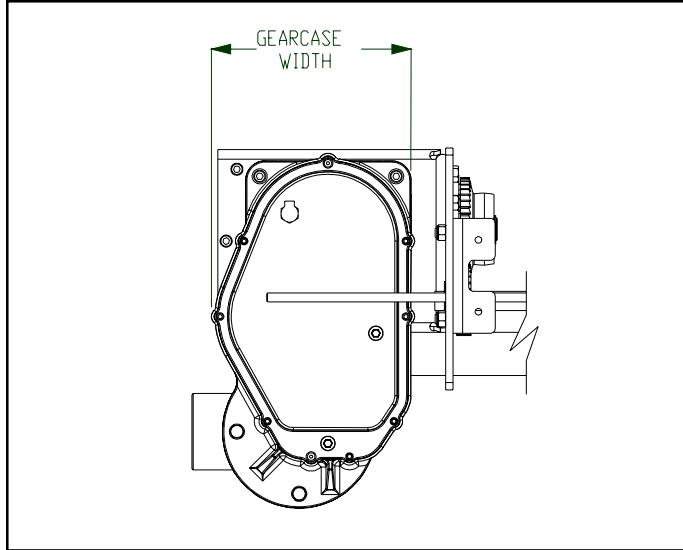

Figure 4-2. Gearcase Width Illustration
- e) Refill through filler hole to proper level (bottom of oil level plug hole) using **GCOH** (Paragraph 4-7). The amount of oil required depends on the overall size of the gearcase. Both versions of the "A" Frame hoist utilize the same size gearcase, although their contents differ. To confirm the version of your gearcase refer to Figure 4-2. Your gearcase should have a similar shape to that shown and will measure 10 in width and requires approximately 3 quarts of oil.